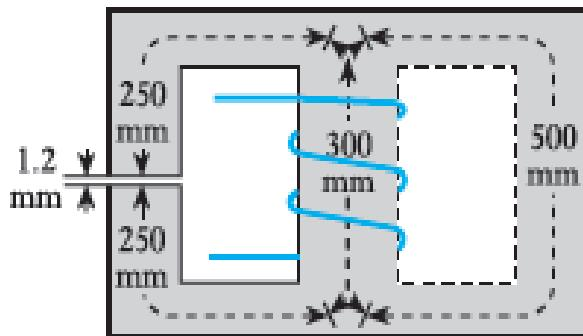

Figure:3
Q.4 A magnetic core made of mild steel has the dimensions shown in Fig. 3. There is an airgap 1.2 mm long in one side limb and a coil of 400 turns is wound on the centre limb. The cross-sectional area of the centre limb is 1600 mm² and that of each side limb is 1000 mm². Calculate the exciting current required to produce a flux of 1000 µWb in the airgap. Neglect any magnetic leakage and fringing. [5.85 A]